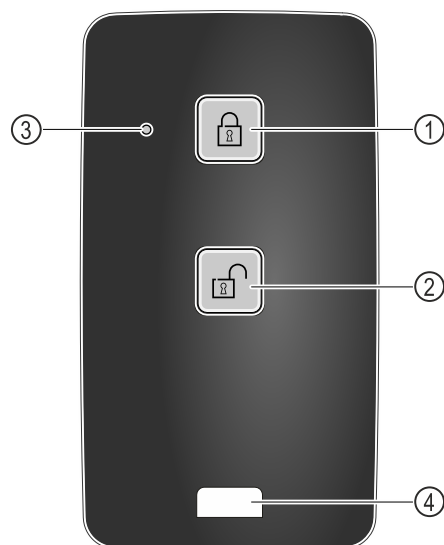

Fig. 139
- (1) Engage lock
- (2) Unlock lock
- (3) Status LED
- (4) Fastening eyelet
- ▶ Press button Fig. 139 (1) on the remote control.
- ▶ Press button Fig. 139 (2) on the remote control.
- ▶ Status LED Fig. 139 (3) provides a visual acknowledgement when you press the button.
- ▶ Eyelet Fig. 139 (4) for attaching remote control, for example, to a key ring.